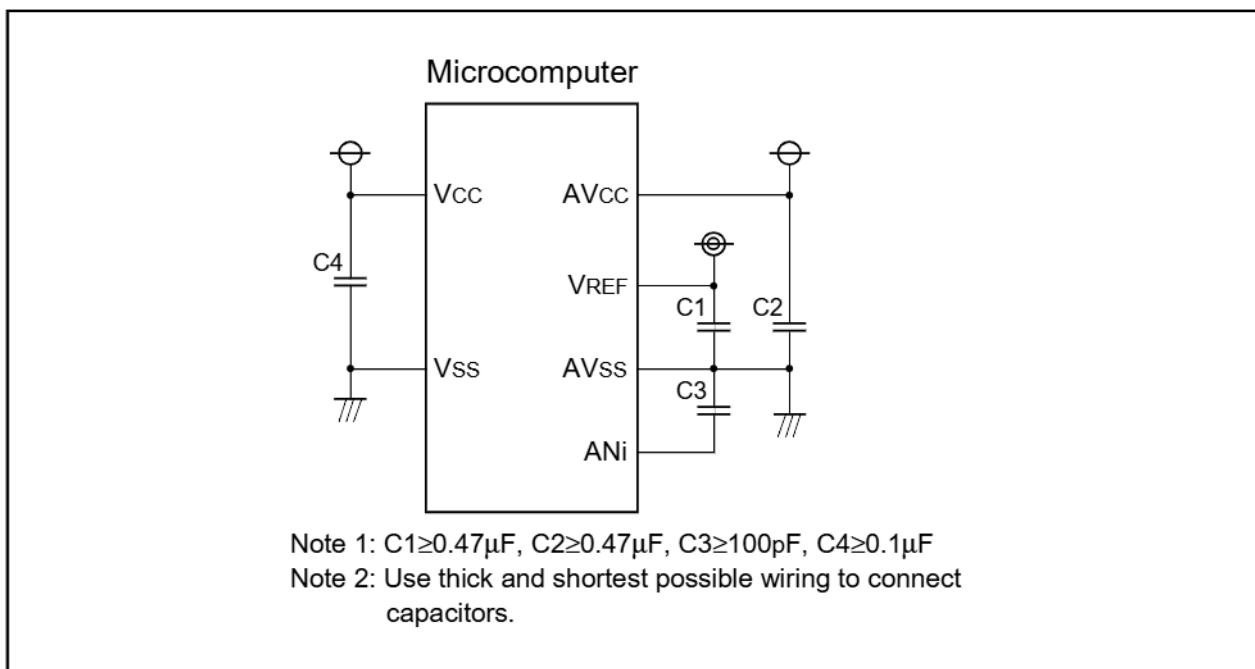

Figure 1.20.10. Example connection of Vcc, Vss, AVcc, AVss, Vref and ANi
- (1) Set the direction register of the following ports to input: the port corresponding to a pin to be used as an analog input pin and external trigger input pin(P97).
- (2) In using a key-input interrupt, none of 4 pins (AN4 through AN7) can be used as an A-D conversion port (if the A-D input voltage goes to "L" level, a key-input interrupt occurs).
- (3) Insert the capacitor between AVcc and AVss, between V_{REF} and AVss, and between the analog input pin (AN_i) and AVss, to prevent a malfunction or program runaway, and to reduce conversion error, due to noise. Figure 1.20.10 is an example connection of each pin.